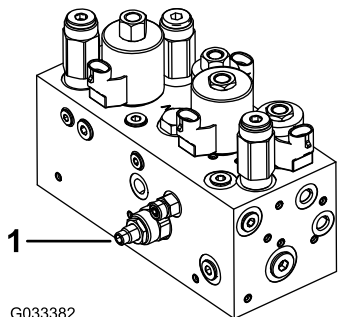

Figure 47
The cutting unit lift/drop circuit comes with a flow-control valve (Figure 47). This valve is preset at the factory at approximately 3 turns open, but you may need to adjust it to compensate for differences in hydraulic fluid temperatures, mowing speeds, etc.
1. Raise the seat and locate the flow-control valve for the center-pull frame (Figure 47) which is located on the side of the hydraulic manifold.